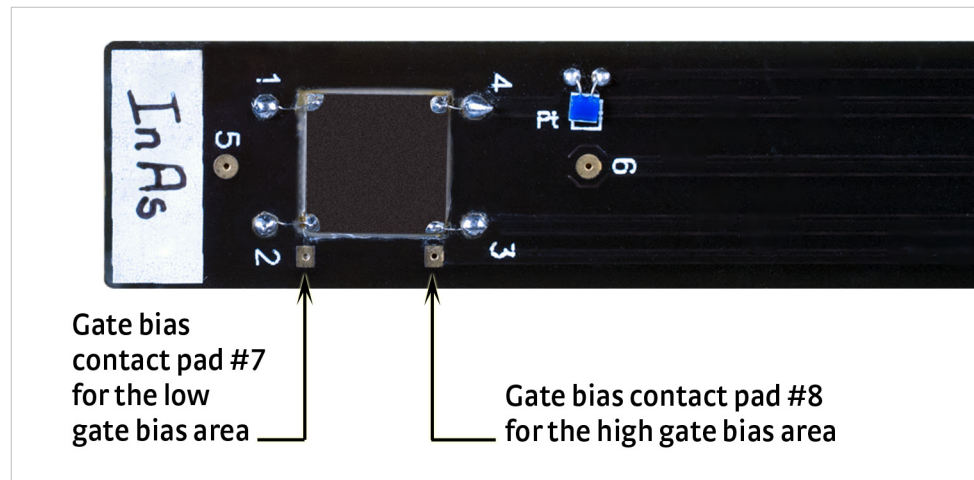

FIGURE 4-14 Gate bias contact pads on the sample card
1. Use the steps in section 4.3.2.4.3 to make a contact between the #8 bias contact pad on the sample card and the high gate bias area of your sample (FIGURE 4-14).
2. If you connected the #7 triaxial cable to the rear of the Model 6487, then use the steps in section 4.3.2.4.3 to make a contact between the #7 bias contact pad on the sample card and the low gate bias area of your sample (FIGURE 4-14).